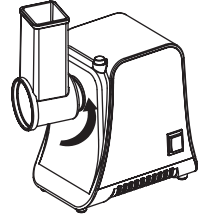

Figure 15.
3. Turn the vegetable shredding head counterclockwise to fasten the head into place (fig. 15).